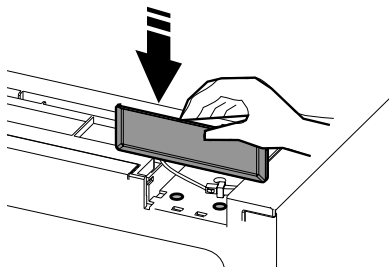

Figure 27
48. Snap the reed switch housing into place (see Figure 27) ensuring that the wiring harness is not protruding above the top of the cabinet.